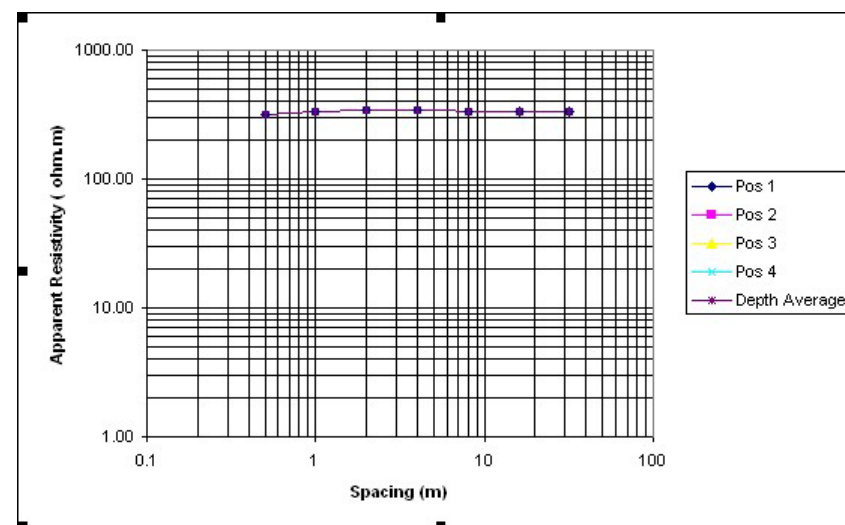
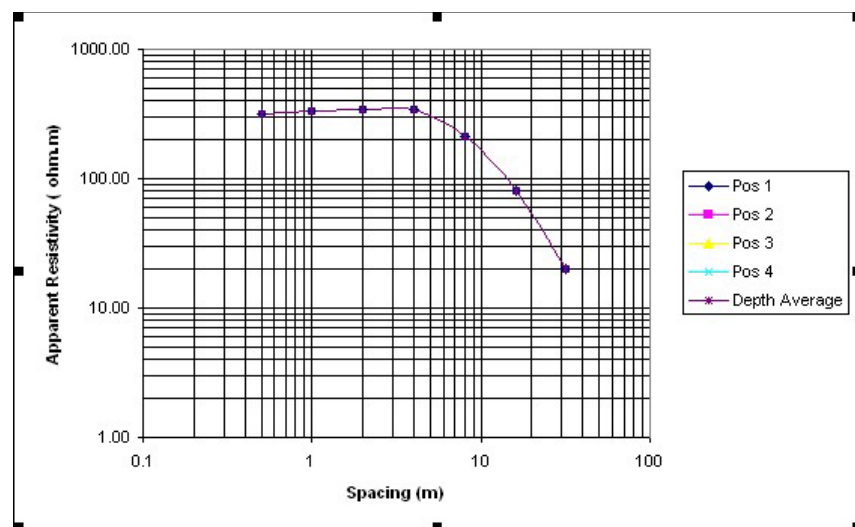

Figure: 2 – Homogenous Soil
Figure: 3 – Two Layer
- If possible, enter the data into the electronic copy of the Substation Earth System Injection Analysis Tool - 2941578. Analyse the graph of apparent resistivity vs spacing. This graph will tell you if you have gone to a large enough spacing. Refer Figure 2, this suggests a homogenous soil (approximately 350Ωm to a depth of at 64m). No further testing would be required. Figure 3, however, shows a change in layer, but further spacing would be required to try and determine the resistivity of the lower layer.
A quick assessment of the layering of the soil model can be obtained from Resistivity-Depth graphs as shown in Figures 2 and 3. However, this is not always the preferred method for determining resistivity value.